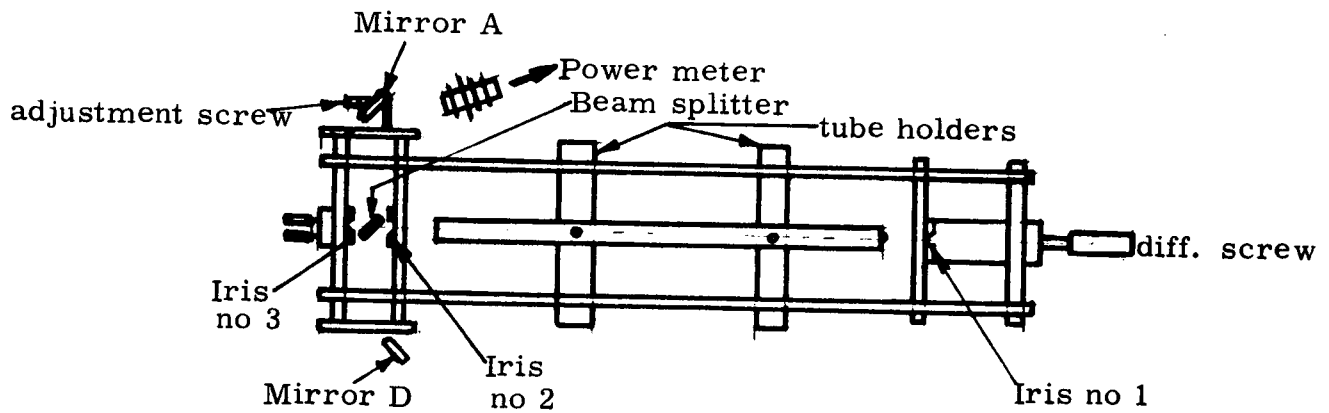

Figure 4. Laser oscillator (top view)
D. Alignment of the laser oscillator (figure 4)